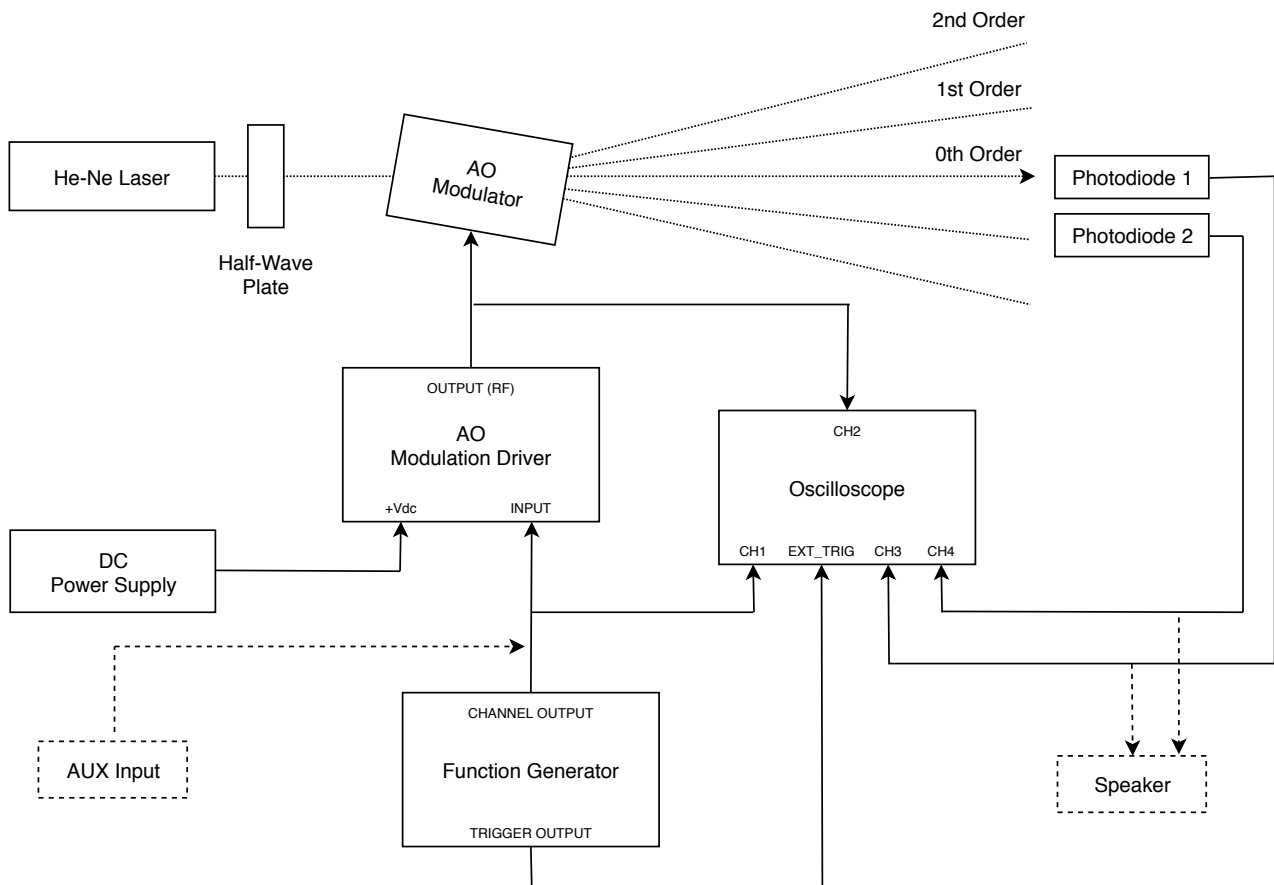

Figure 7: Schematic of the AOM (ISOMET-1206C) circuit.
1. Connect the circuit as shown in the schematic - [Fig 7].
13. Insert the speaker as shown in [Fig 7], find and note the maximum amplitude and
18. Use the AUX input [Fig 7] to transmit music on the laser beam and play back out the amplified speaker. Record and detail observations of quality in different order beams and compare it to the SMV ratio.